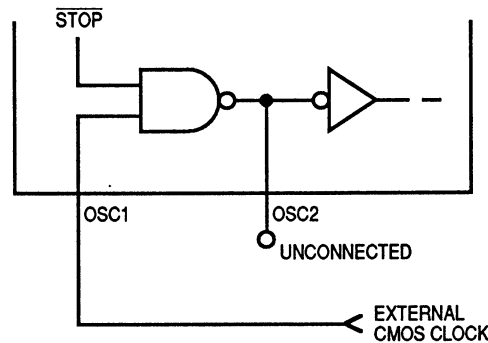

Figure 2-3. External Clock Source Connections
- An external clock signal connected to OSC1 (see Figure 2-3)
An external clock from another CMOS-compatible device can be connected to the OSC1 input, with the OSC2 pin not connected, as shown in Figure 2-3.